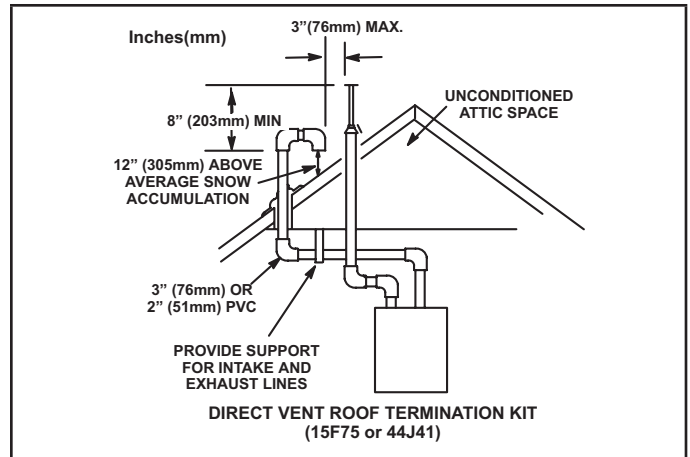
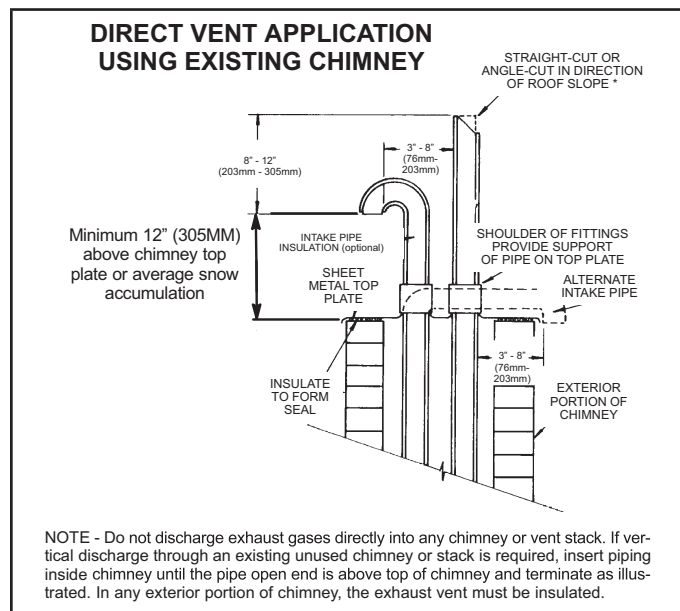

FIGURE 31
FIGURE 39
Intake and exhaust pipes may be routed either horizontally through an outside wall or vertically through the roof. In attic or closet installations, vertical termination through the roof is preferred. FIGURE 31 through FIGURE 39 show typical terminations.
- 3 - On roof terminations, the intake piping should terminate straight down using two 90° elbows (FIGURE 31).
- 8 - A multiple furnace installation may use a group of up to four terminations assembled together horizontally, as shown in FIGURE 39.